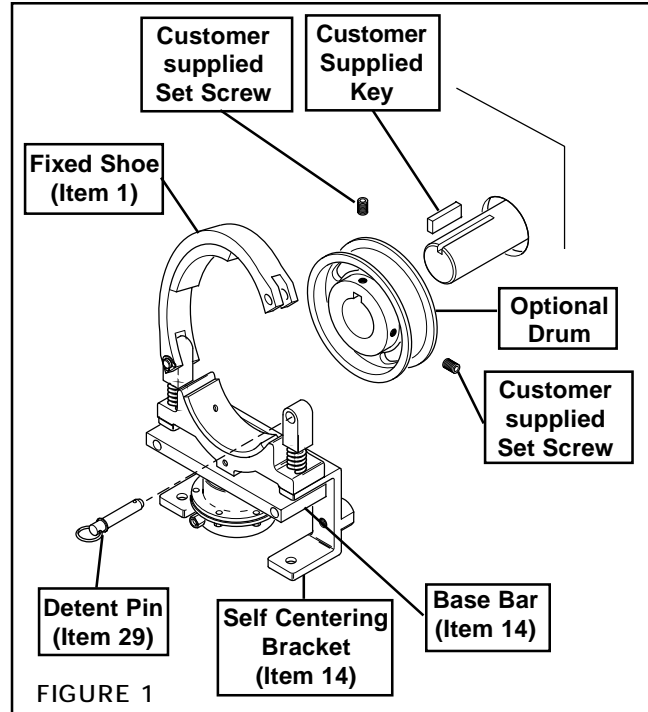

FIGURE 1
1. Insert a customer supplied Key onto the shaft (See Figure 1).
2. Slide the optional Drum over the customer supplied Key and onto the shaft (See Figure 1).
3. Secure the optional Drum to the shaft using two customer supplied Set Screws (See Figure 1).
4. Pull the Detent Pin (Item 29) and lift the hinged Fixed Shoe (Item 1) to the open position (See Figure 1).
Allow sufficient clearance between the Friction Facings (Item 3) and the optional Drum to allow free rotation of the Drum (See Figure 1).
5. Position the Diaphragm Brake on the optional Drum with the Fixed Shoe (Item 1) riding on the Drum and the Self Centering Bracket (Item 14) mounted as low as possible (See Figure 1).
6. Secure the Self Centering Bracket (Item 14) (See Figure 1).